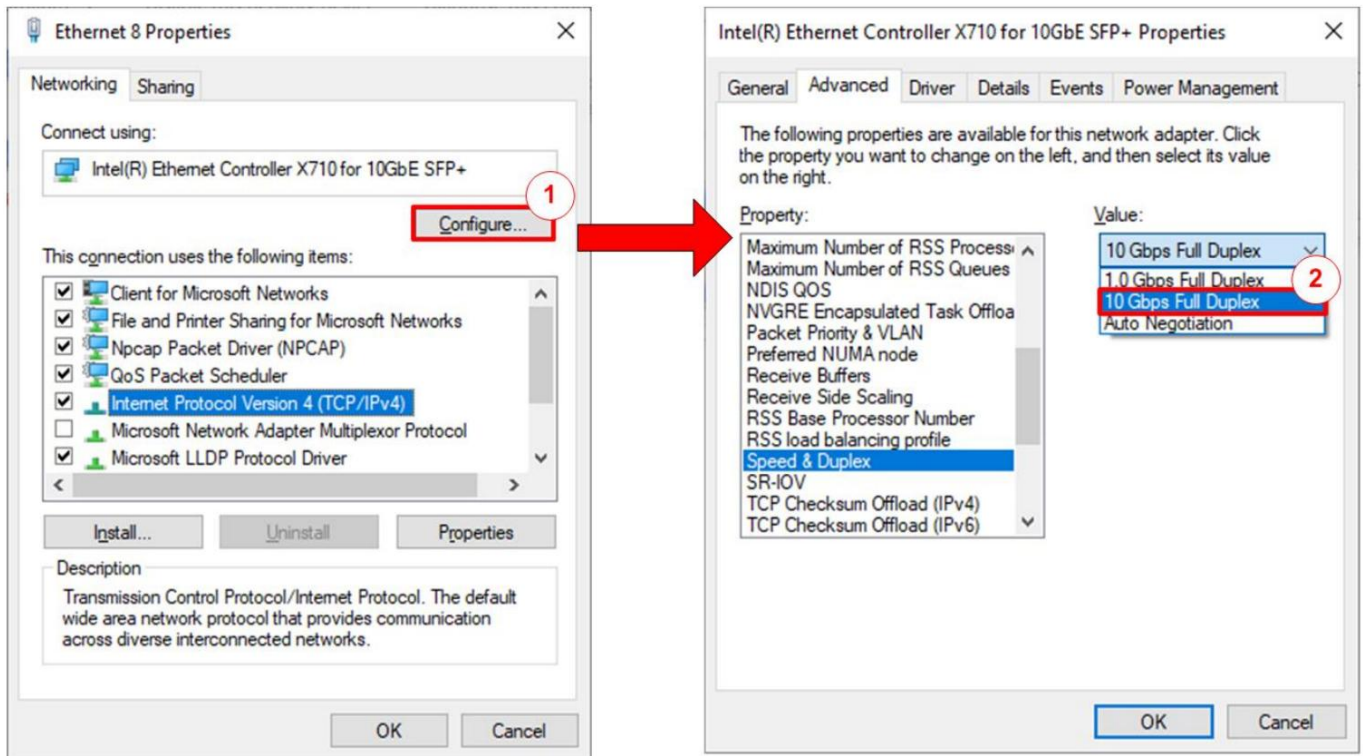

Figure 5 Set Link Speed = 10 Gbps
- 1) On Local Area Connection Properties window, click “Configure”, as shown in Figure 5.
- 2) On Advanced Tab, select “Speed and Duplex”. Set the value to “10 Gbps Full Duplex” for running 10 Gigabit transfer test, as shown in Figure 5.